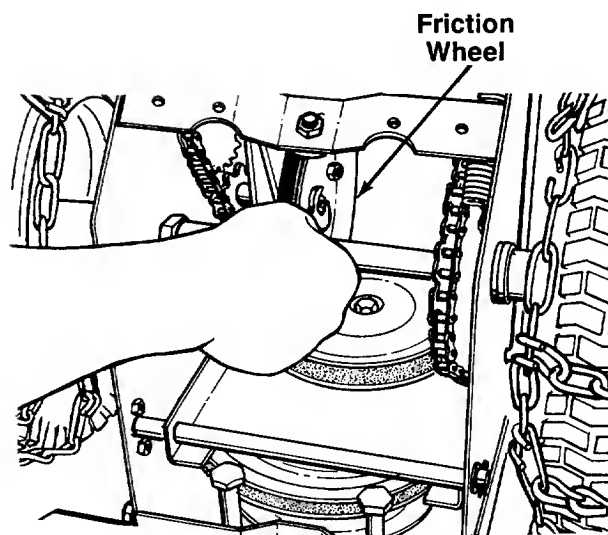

FIGURE 36.
4. Using a 1/2" wrench, remove the three hex bolts which hold the friction wheel to the friction wheel adapter. See figure 36.